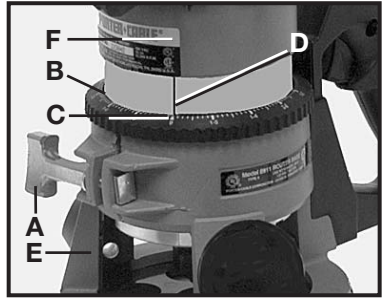

Fig. 18
1. Loosen the clamp screw (A) Fig. 18.
2. Hold the base (E) and turn the motor unit (F) Fig. 18 **COUNTER-CLOCKWISE** until the tip of the bit is above the bottom of the base.
4. Turn the motor unit (F) Fig. 18 **CLOCKWISE** until bit touches the wood surface.
5. Tighten the clamp screw (A) Fig. 18.
6. Rotate the depth adjusting ring (B) Fig. 18, until the zero-line (C) is opposite the index line (D) on the housing.
7. Loosen the clamp screw (A) Fig. 18.
8. Tip the router so that the bit is clear of the wood surface. Turn the motor unit (F) Fig. 18 **CLOCKWISE** until the index line (D) on the motor housing reaches the desired depth indicated on the ring.
9. Tighten the clamp screw (A) Fig. 18 firmly.